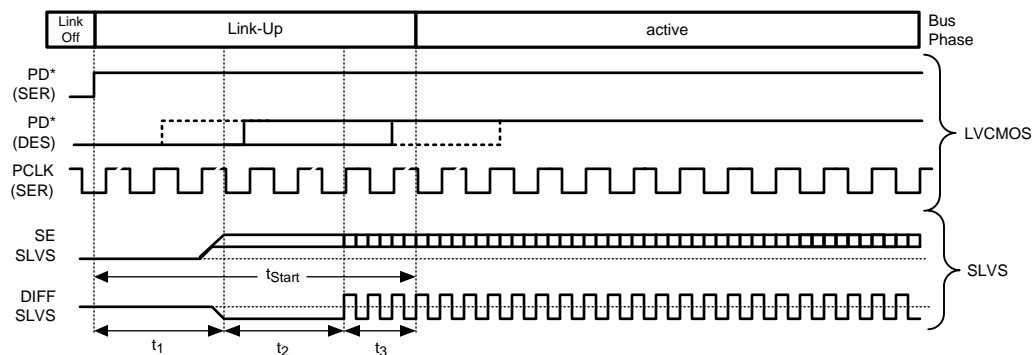

Figure 8. MPL-2 - LM4312 Link Up Timing
(1) Typical values are given for $V_{DD} = 1.8$ V and $T_A = 25^\circ$ C.
(2) 1 UI is the serial data DD pulse width = 1 / 12xPCLK (18-bit mode), 1 UI is the serial data DD pulse width = 1 / 16xPCLK (24-bit mode)
(3) Specification is ensured by design or characterization
(4) MPL-2 serial link transition time is measured from 20% to 80 %.
(5) Enable Time is a complete MPL-2 start up $t_1+t_2+t_3$. See also Figure 8.
Link-Up is shown in Figure 8. The DC and DDn signals are shown both as single-ended and differential waveforms.